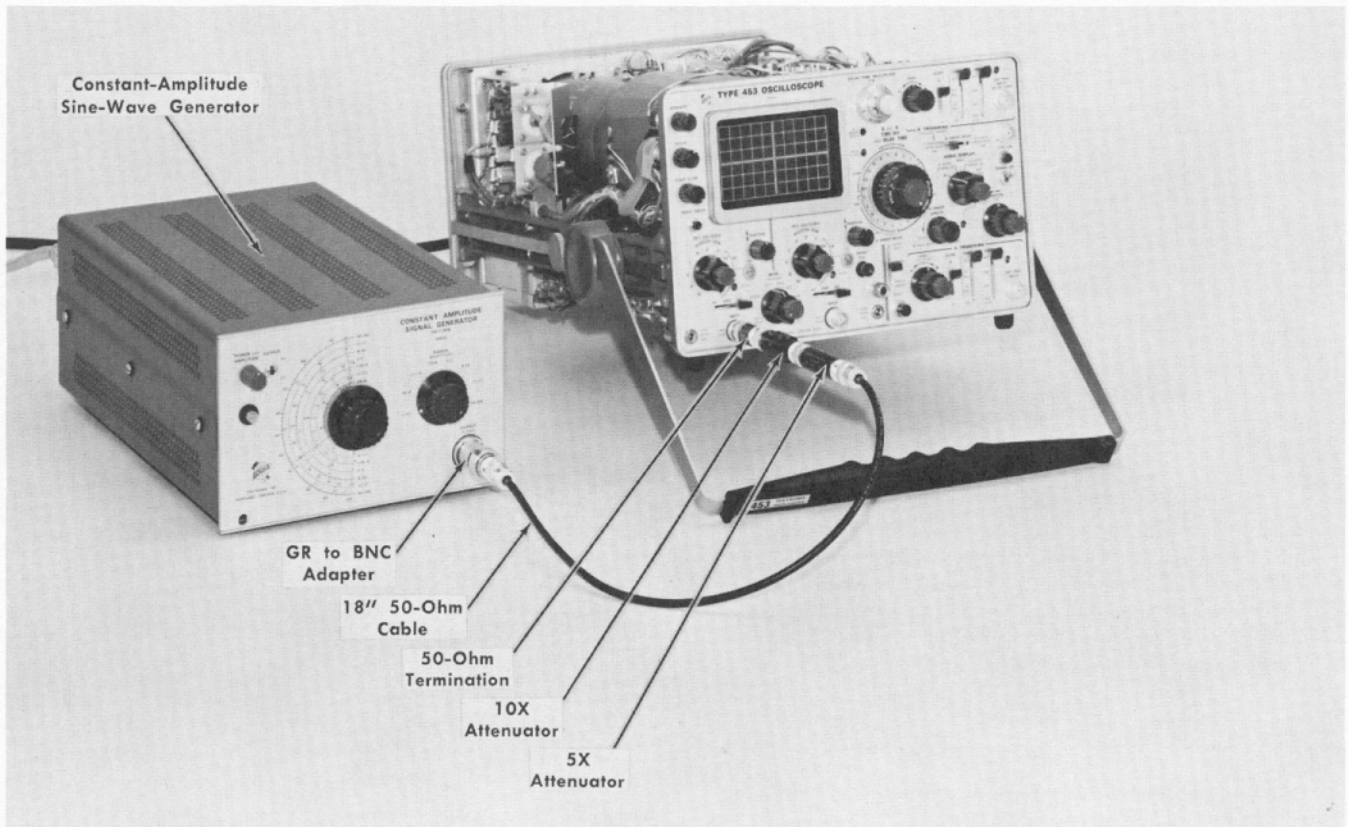

Fig. 6-28. Initial test equipment setup for steps 24 through 27.
- a. Test equipment setup is shown in Fig. 6-28.